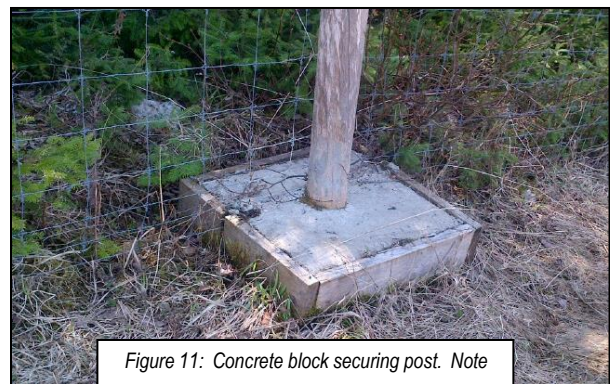

Figure 11: Concrete block securing post. Note bottom wire in concrete
- 2) Brace and corner posts, (**Figure 11**) 6 - 12" in diameter are spaced at 16' for an 8' high fence, 12 - 14' for a 6' fence and 10' for a 4' high fence. The horizontal brace posts can range between 4 - 6" in diameter. The length is determined by the brace post spacing.